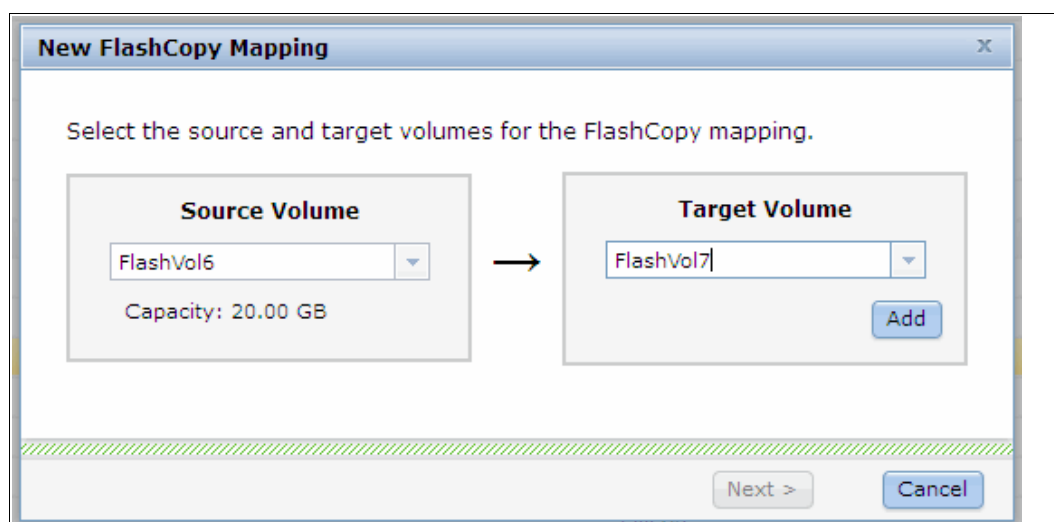

Figure 10-26 Select the target volume
2. You must choose the target volume for the source volume that you selected. Select the target volume from the drop-down menu in the right pane of the window and click **Add**, as shown in Figure 10-26.